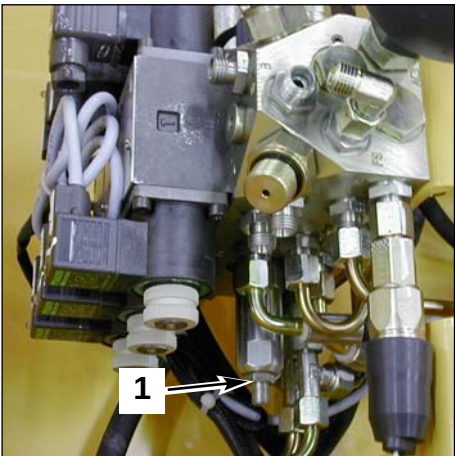

Fig. 2 Assistance pressure unit
- 3- Remove the stopper and turn the controller screw (1 fig. 2) clockwise in order to increase the pressure.